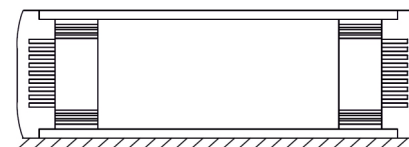

Fig. 3
- » Turn the instrument 180° and place it in the same position (Fig. 3). Press „ON/OFF“ again, „-2-“ flashes until calibration is complete.